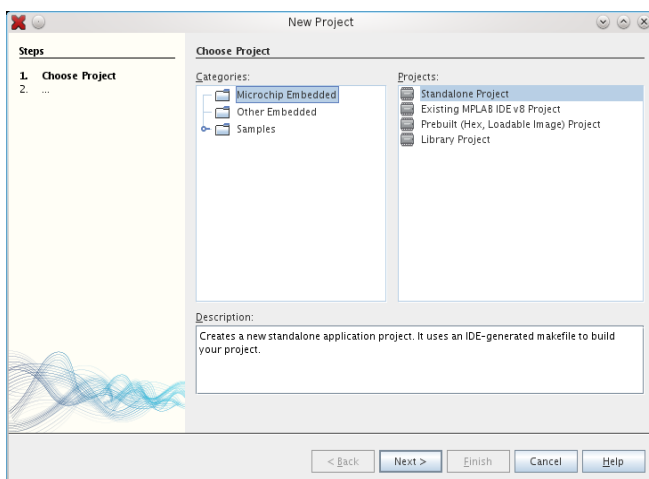

Figura 1
3. Selecionar “Microchip Embedded” + “Standalone Project” + “Next” (Figura 1)